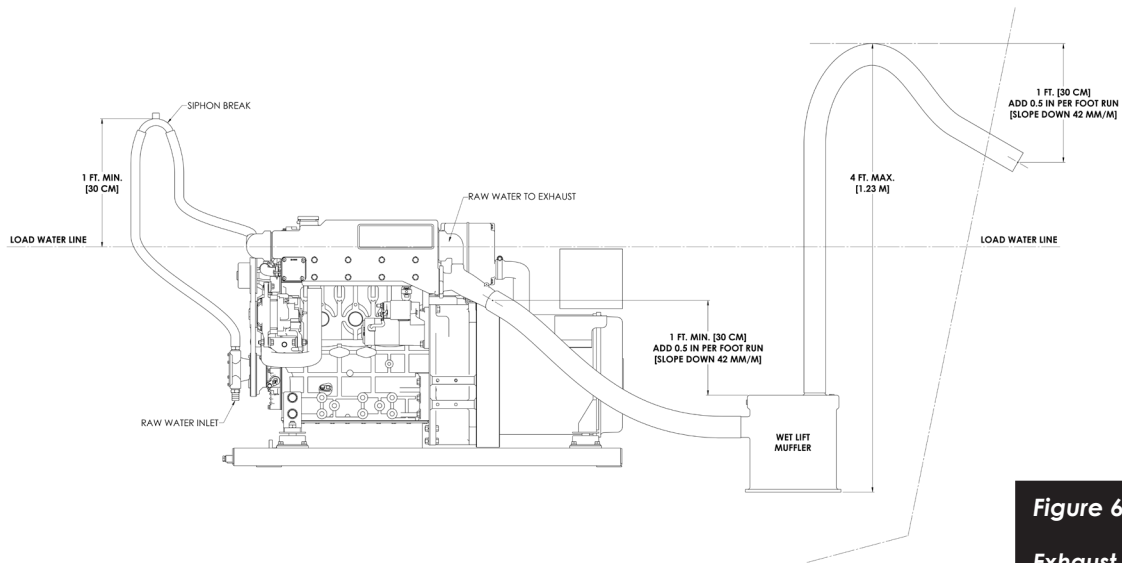

Figure 6:
7. You will need a siphon break if your generator sits so low that the point where the cooling water is injected into the exhaust is less than a foot above the waterline. See Fig. 6.